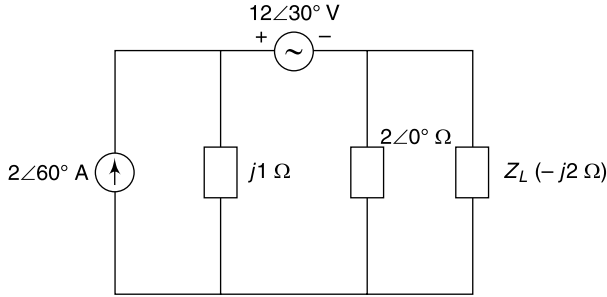

Fig. 6.27 Circuit of Ex. 6.26
6.26 Find current through Z_L in Fig. 6.27 applying Thevenin's theorem.